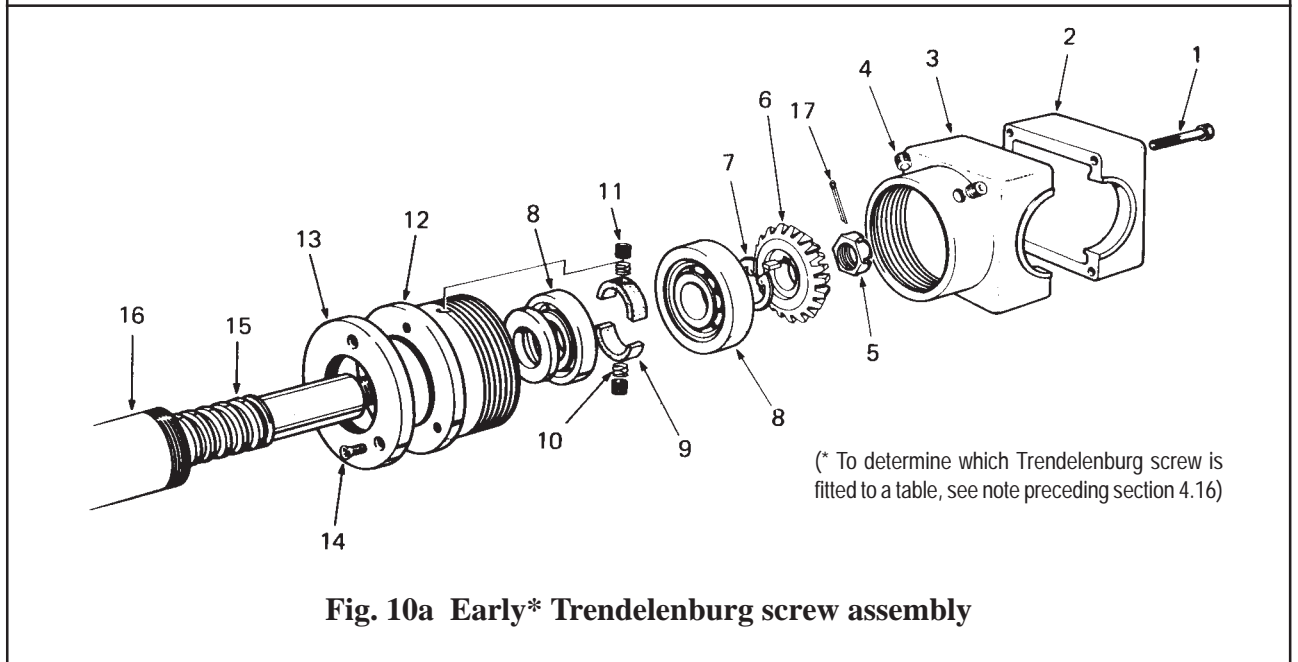

Fig. 10a Early* Trendelenburg screw assembly
- vi Refer to Fig. 10a. Mark the bevel gear lower half housing (3) and screwed bush (12) to aid reassembly, then remove socket head grub screws (4) from the half housing and unscrew the screwed bush (12) until heads